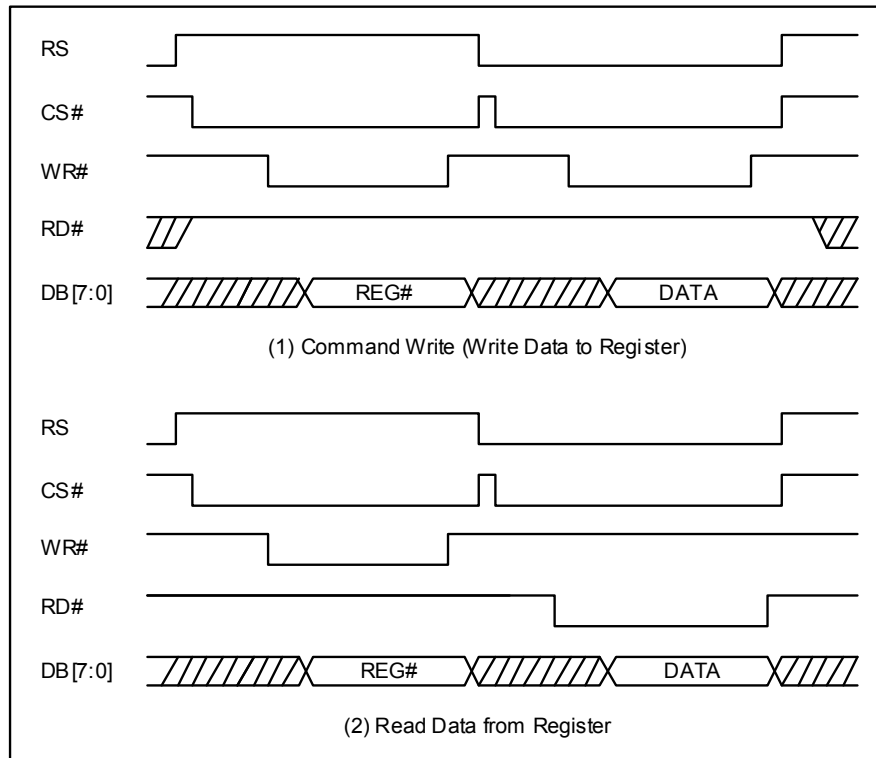

Figure 6-28 : 8080 Register Write/Register Read
RA8875 contains dozens of registers. If users want to write a command into the register of RA8875, they must execute the command write cycle first, i.e. the address of register, and then execute the data write cycle for storing a new data into the target register. So "Write Command" means that it will write a new data into the register. Please refer to the Figure 6-28 (1) for the related access timing.
To read the register contents of RA8875, it has to execute the command write cycle first, and then a “Data Read cycle” follows it. Please refer to the Figure 6-28 (2). But please note that the Figure 6-28 is based on 8080 interface.